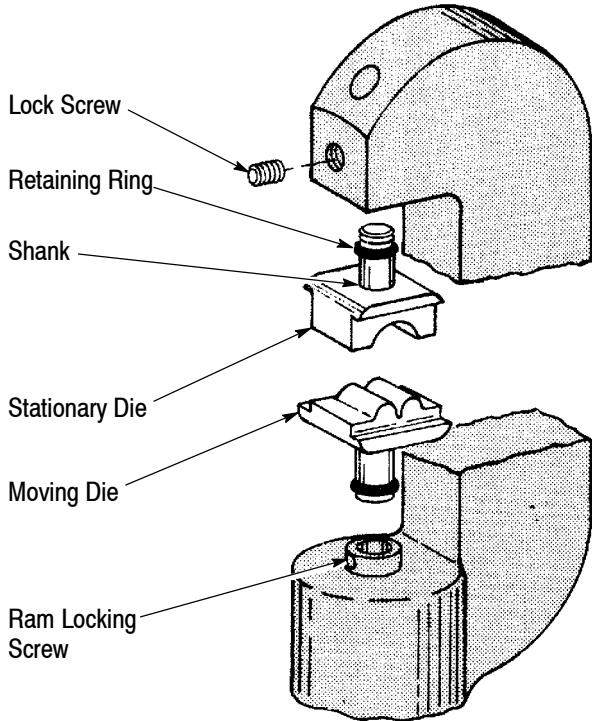

Figure 2
- Loosen the lock screw in the top section of the crimping head. See Figure 2.
2. Insert the shank of the stationary die into the top section of the crimping head. See Figure 2. The retaining clip will hold the die in place.
4. Loosen the lock screw and insert the shank of the moving die into the ram well. See Figure 2. The retaining ring will hold the die in place.